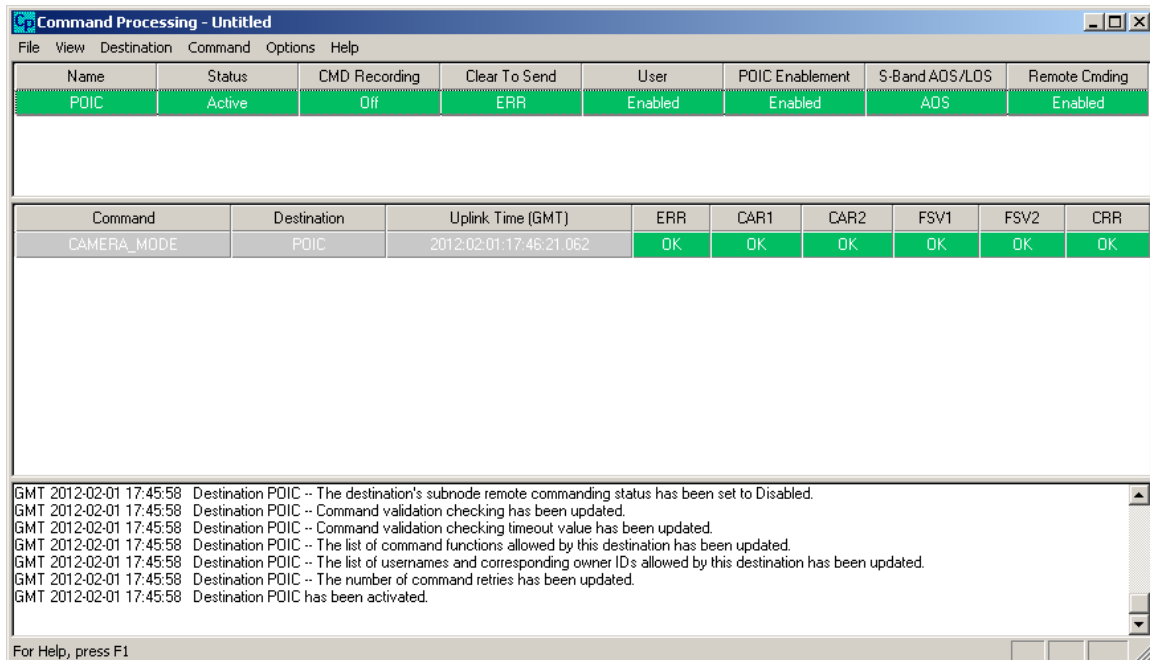

Figure 33 Command Response Information
16. Look at the middle of the Command Processing Main Window (shown in Figure 33). This is called the Main Window Command Track area. You now see the **CAMERA_MODE** command in the command track list, along with the name of the destination where the command was sent, the command uplink time, and information about each command response that was received.